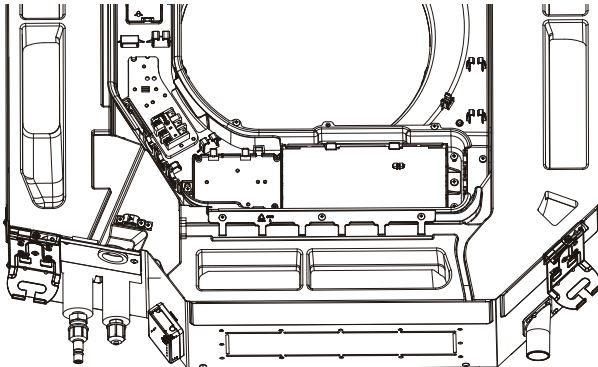

Fig.32
| ③ . Connect the indoor unit connection cord properly based on the corresponding marks as shown in Fig.32. |